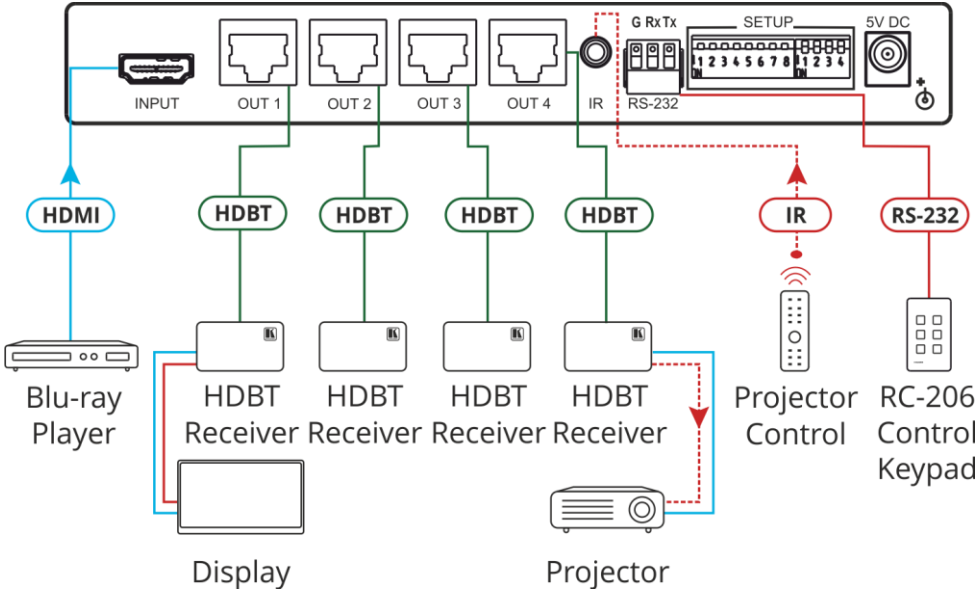

Figure 4: Connecting the VM-4HDT
To connect the VM-4HDT as illustrated in the example in Figure 4:
6. Connect the 5V DC power adapter to the power socket unit 14 and then connect the adapter to the mains electricity (not shown in Figure 4). The ON LED 6 lights.